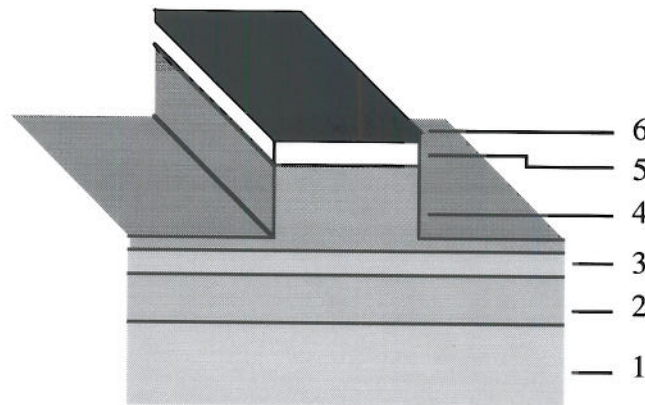

Figure 3.
6. Figure 3 shows an unlabelled sketch of an InGaAsP Fabry-Perot laser.